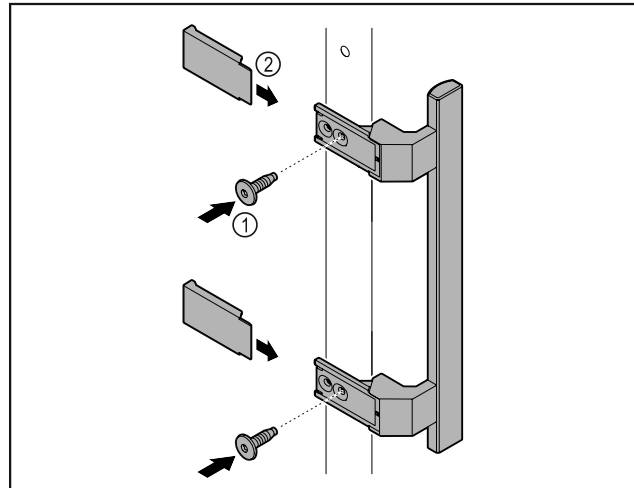

Fig. 3
- Attach handle from accessory kit to the door using the screws supplied Fig. 3 (1).
- Put on cover Fig. 3 (2).